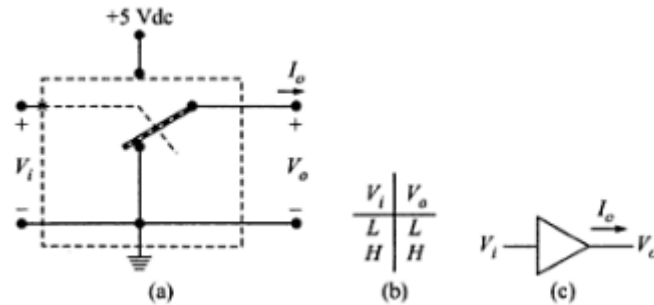

Figure 1.8: (a)Buffer amplifier model (b)Truth table (c)Symbol
- A *Buffer* is a digital circuit which can maintain a required logic level while acting as a current source or a current sink for a given load (Figure: 1.8).